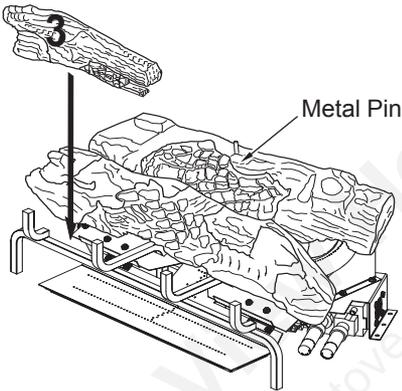

Figure 37- Installing Log # 3
- Place the front left log (#3) onto the base assembly between the middle log and the grate. The back of the front left log will rest against the front of the middle log. The notch in the end of the front left log will fit around the grate bar. See Figure 37.